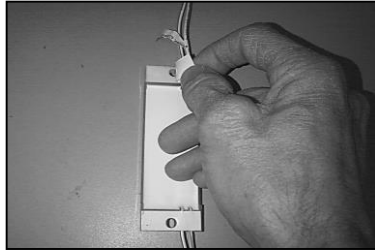

Figure 2
- 3.3.5 Remove the protective film from the tape on the back of the LED modules (Figure 2)